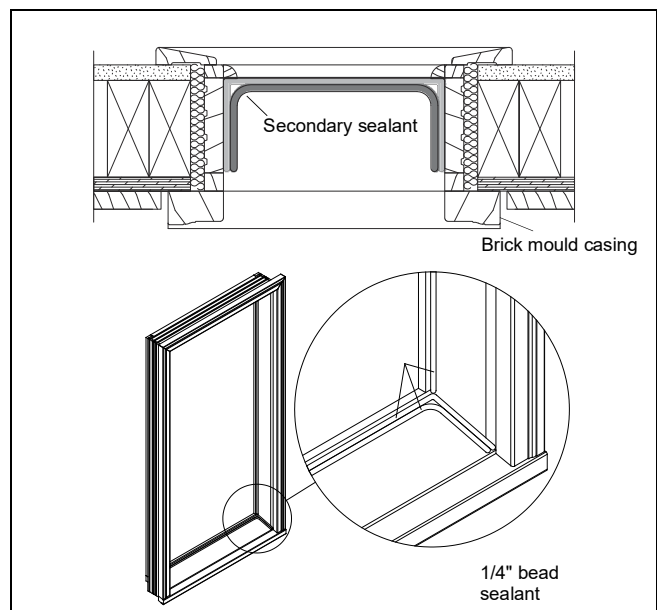

Figure 3
6. Apply a 1/4" (6) bead of sealant at both sill to jamb joints and on the back of the interior sash stops or moulding. Apply a secondary continuous bead of sealant on sill as shown in figure 3. Proceed to Installing the Insert Window.